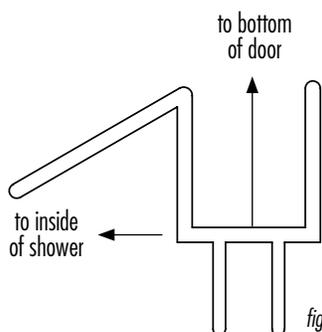

figure 35
12. Locate the clear door sweep and attach it to the bottom of the glass door. The reflective shield should face into the shower (fig. 35).